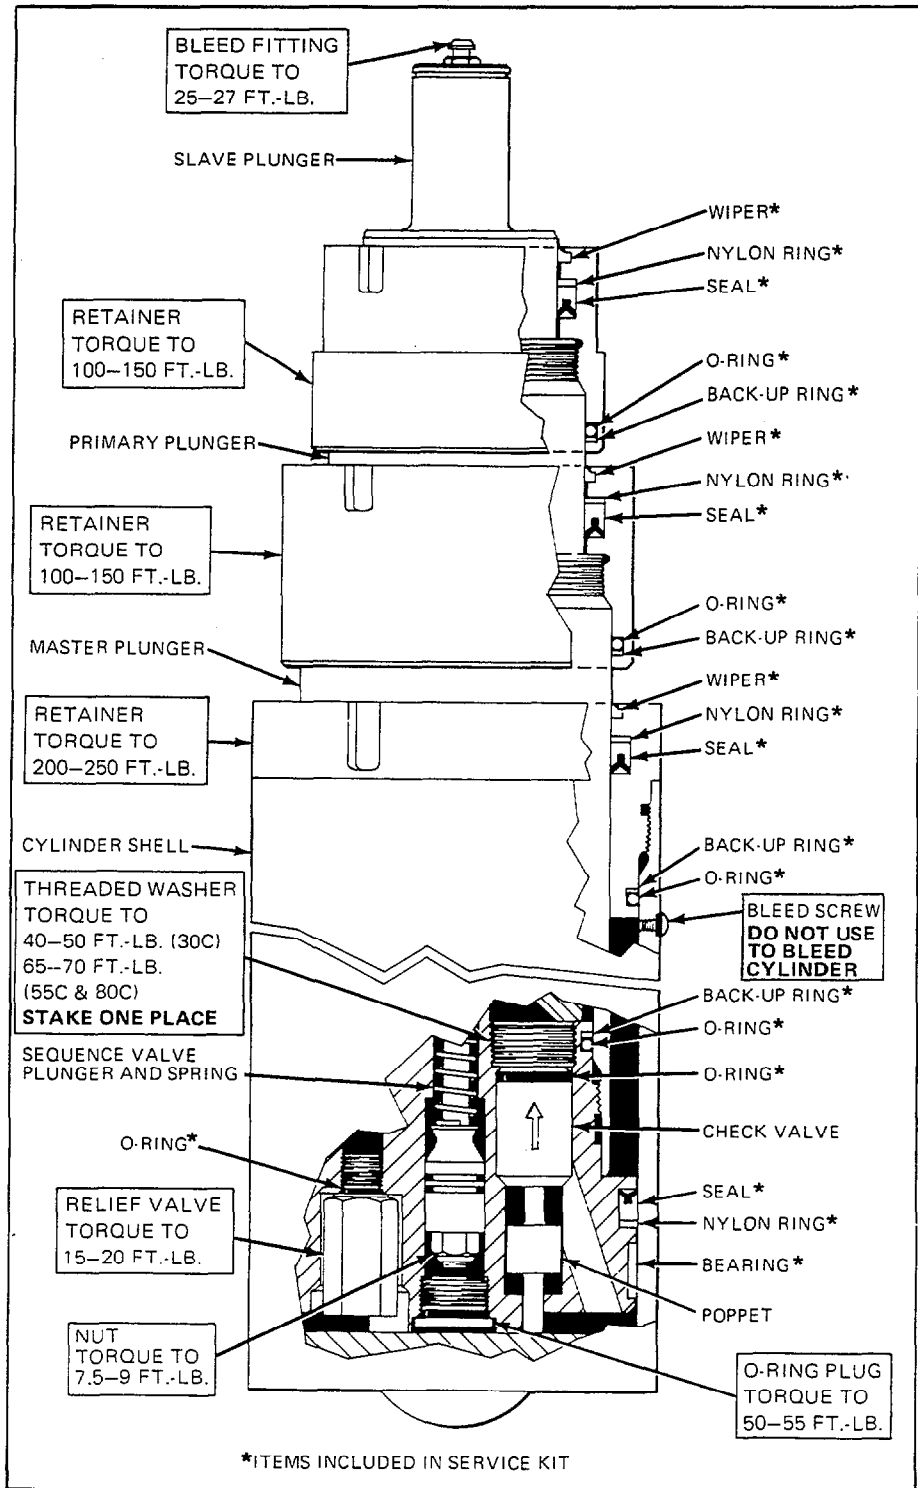

Figure 8. Hoist Cylinder Components
7. Wash the cylinder assembly with solvent to remove any foreign material on the shell. Especially clean around the plunger retainers. Blow dry with compressed air. **If you are going to replace the seals, O-rings, and/or wipers in the plunger retainers only, you can do so with the cylinder in place on the mast according to the following procedures (refer to Figure 8).**
- b. Replace the seals, O-rings, and/or wipers in the retainers as required. Carefully note their positions (see Figure 8). Avoid excessive stretching of the O-ring on the large diameter retainer.
- c. Install the retainers as described in section 5.1-5 steps 12 through 15. Tighten all retainers to the torque values shown in Figure 8.
4. Install the new seal and back-up ring on the piston, carefully noting their position (see Figure 8). Avoid excessive stretching of the seal. Using a lubricant such as STP or hydraulic oil will ease seal installation.
- d. Replace the O-ring and back-up ring on the piston, carefully noting their position. See Figure 8. Avoid excessive stretching of the O-ring during installation.
- f. Install and torque the threaded washer to 40–50 ft.-lb. (30C), 65–70 ft.-lb. (55C and 80C). See Figure 8. Stake the washer in place to secure it.
11. Replace the seals, o-rings and wipers in the retainers. Lubricate the new seals with petroleum jelly prior to installation. Note the correct seal locations. See Figure 8. Avoid excessive stretching of the o-ring on the large-diameter retainer.